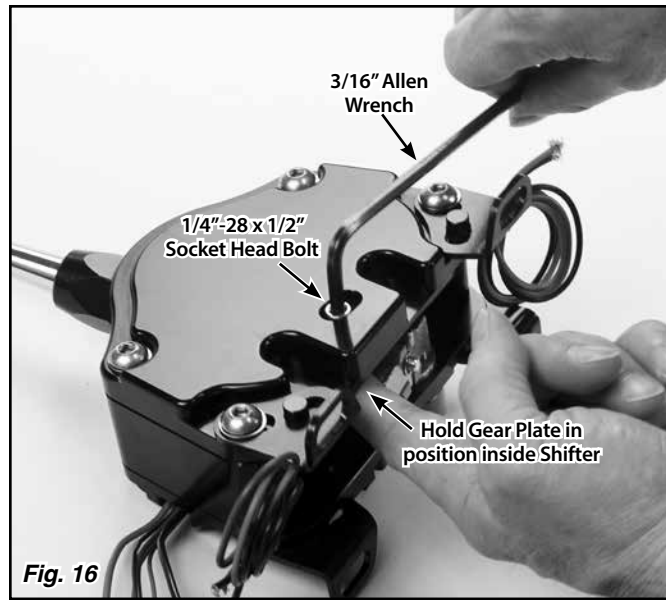

Fig. 16
Lay the Shifter on its side with the driver's side down and the shifter lever pointing away from you. Note the 1/4"-28 x 1/2" socket head bolt shown in Fig. 16 is at the left side of the slot it is in.
Step 3: Reach inside the Shifter and support the gear plate. Use a 3/16" Allen wrench to remove the 1/4"-28 x 1/2" socket head bolt. Fig. 16